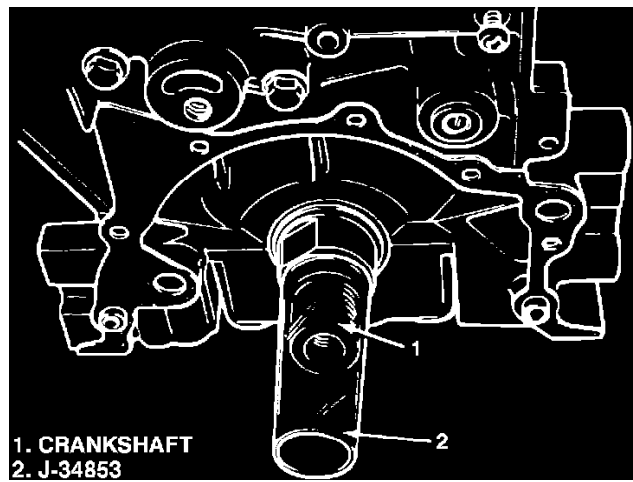

Fig. 32 Tool J-34853 installation
2. Install tool J-34853 (oil seal guide) onto crankshaft to prevent damage to oil seal lip, **Fig. 32**. Apply engine oil to special tool.